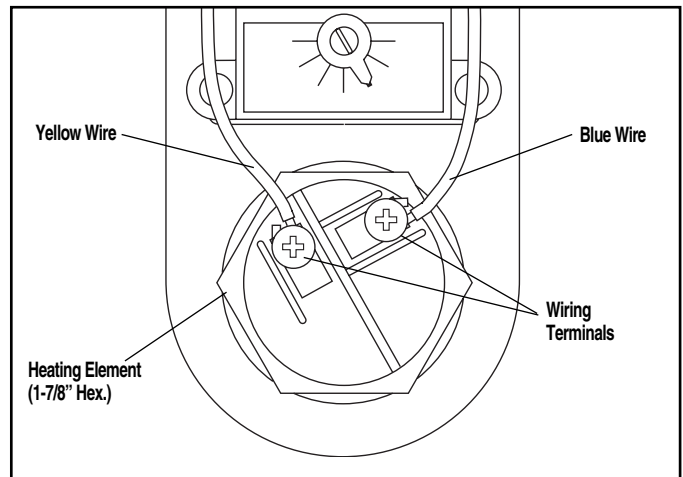

Figure 18. — Typical Element Wiring (upper or lower element position).
- After again insuring that the electrical power is off, disconnect the two wires from the element terminals. (See Figure 18).
- Reconnect wiring to the terminals on the element (see Figure 18).